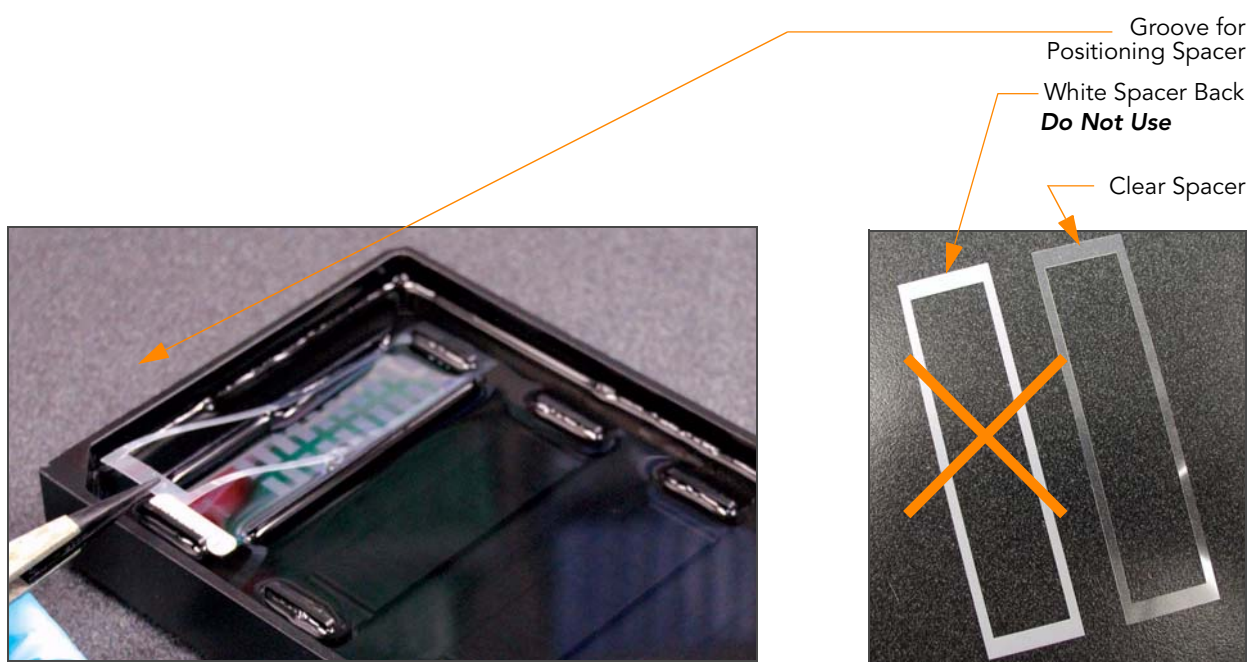

Figure 53 Placing Clear Plastic Spacer onto BeadChip
4. Place a clear spacer onto the top of each BeadChip to be processed (Figure 53). Use the Alignment Fixture grooves to guide the spacers into proper position.